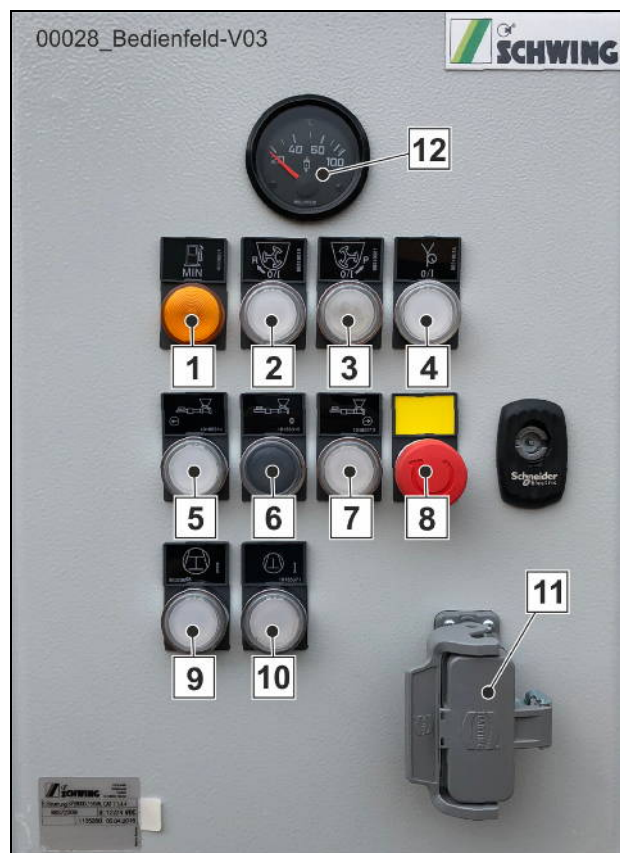

Fig. 4
- Switch on the compressor using the button (10; Fig. 4).
- Switch off the compressor using the button (10; Fig. 4).